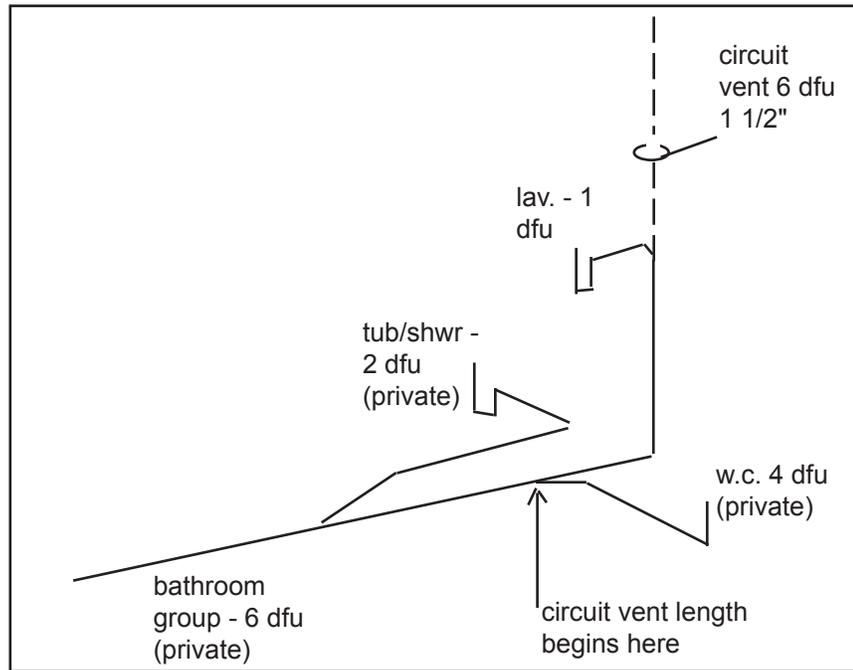

Figure 57. Circuit vented bathroom group
9. Only wall outlet fixtures with a drainage fixture unit value of one or less and which are served by individual or common vents may discharge into the horizontal drain served by the circuit vent (Figure 57).
*Comm 82.31 (10) CIRCUIT VENTING. In lieu of providing individual vents, a horizontal drain to which at least 2 but not more than 8 wall outlet fixtures or at least 2 but not more than 8 floor outlet fixtures, other than blowout type fixtures and wall outlet carrier type water closets, are connected to the same horizontal branch drain, may be vented by a circuit vent in accordance with pars. (a) to (e).*
The example of a circuit vent shown in figure 57 illustrates the use of a circuit vent with a private bathroom group. The horizontal wet vent is another option for venting bathroom groups, however with the configuration shown in figure 57, the circuit vent is an appropriate choice.